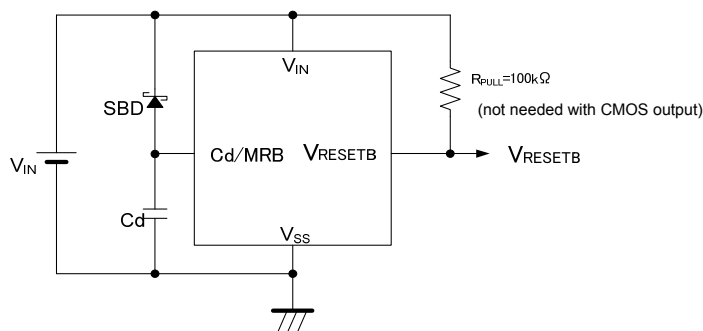

Fig. 5: Circuit example with a Schottky diode connected to the delay capacitance pin
- 5) If a capacitor is connected to the delay capacitance pin and the power input pin voltage drops suddenly during release operation (for example, from 6.0V to 0V), there is a possibility that the delay capacitance pin voltage will exceed the absolute maximum rating. If there is a possibility that the power input pin voltage will drop suddenly during release operation, connect a Schottky diode between the power input pin and delay capacitance pin as shown in Fig. 5.